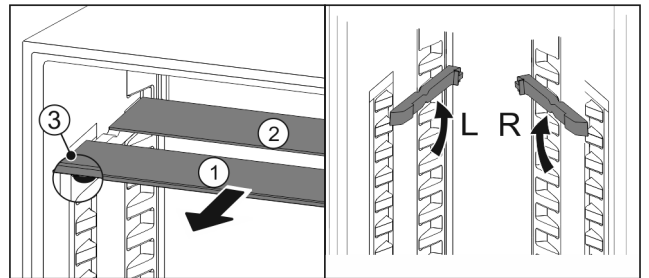

Fig. 30
- Pull the glass panels out Fig. 30 (1) from the front, one at a time.
- ▷ The glass panel Fig. 30 (1) and trim strip are at the front.
- ▷ The stops Fig. 30 (3) point down.